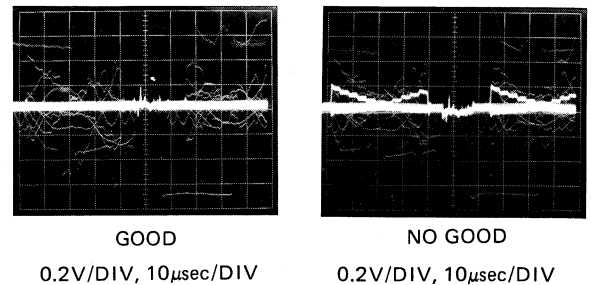

Fig. 4-2-35
- Adjust V.EDGE BALANCE VR18 to cancel the video signal. (Fig.4-2-35)